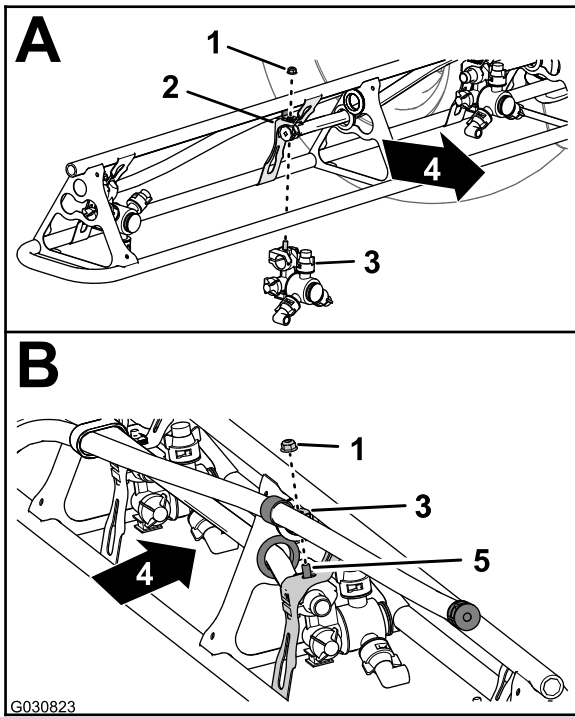

Figure 109
- At the nozzle positions 1 and 4, assemble the sprayer nozzle to the nozzle mount (A of Figure 109) with the flange locknut (5/16 inch) that you removed in step 2 of Removing the Sprayer Nozzles from the Outer Boom Sections (page 43).
- At the nozzle positions 2 and 3, assemble the sprayer nozzle to the nozzle mount (A and B of Figure 109) with the flange locknut (5/16 inch) that you removed in step 2 of Removing the Sprayer Nozzles from the Outer Boom Sections (page 43).